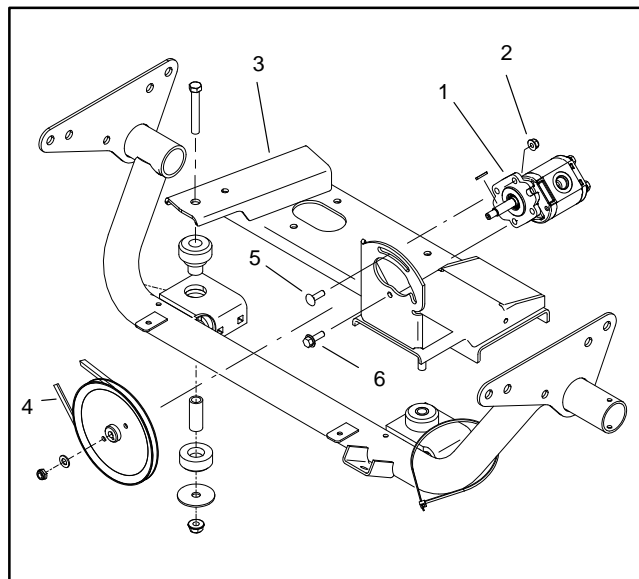

Figure 7
8. Loosen fasteners that secure hydraulic pump to engine mount (Fig. 7). Rotate pump toward engine to allow drive belt to be removed from pump and engine pulleys.